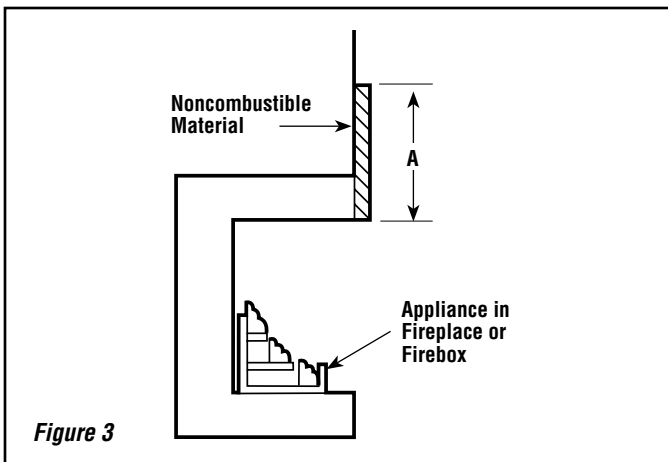
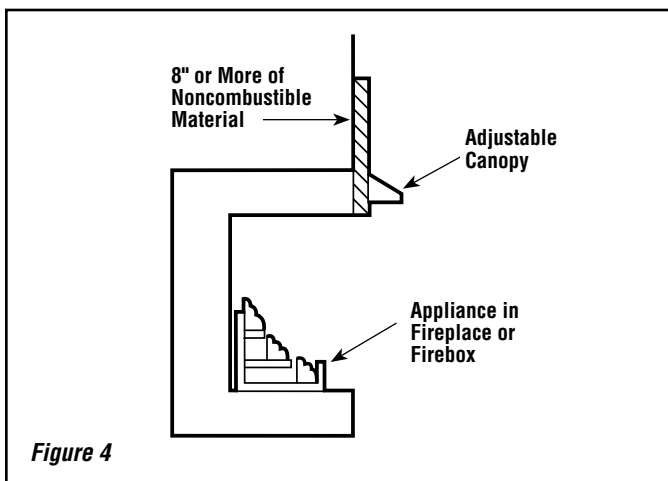

Figure 3
Figure 4
Step 3. Noncombustible materials (minimum requirements): To install the appliance without wood mantels, shelves or other combustible projections directly above the opening of the fireplace (firebox) refer to *Figure 3 and Table 1*. Note that at least 8" of noncombustible material must be installed above the appliances described in this manual.
Less than 8"	Extend noncombustible material to at least 8" and install adjustable canopy (Figure 4). OR Extend noncombustible material to a height of at least 12".
8" minimum to 12"	Install adjustable canopy and observe profiles shown in Figure 4 . or Extend heat resistant material to at least 12" and observe profiles shown in Figure 3 and 5 .